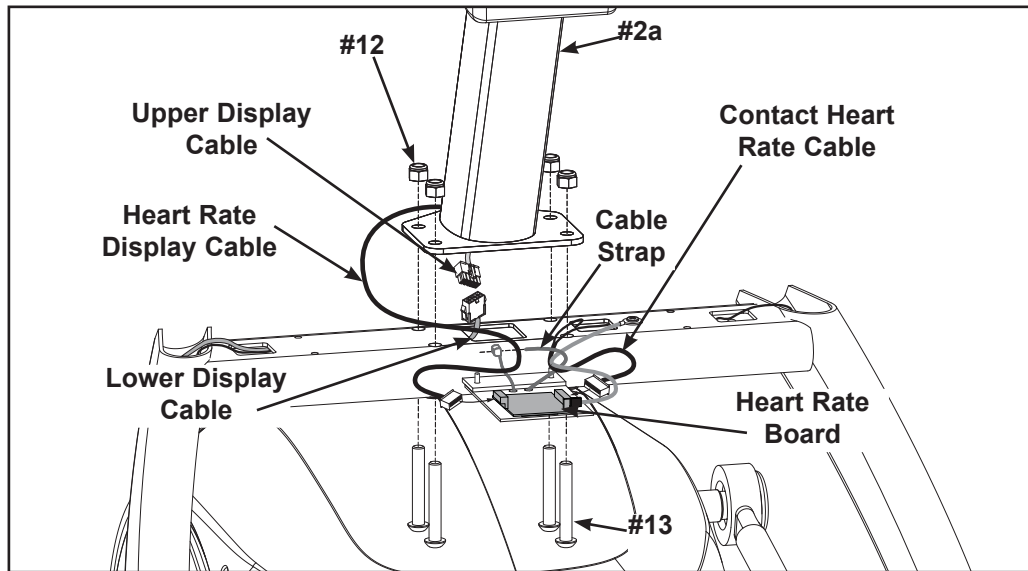

Figure 7 (750AT)
- B. Locate the upper display cable and plug into the lower display cable. See Figure 7
- C. Locate the heart rate display cable and plug into heart rate board. See Figure 7.
- E. Insert (from underneath) the four **BHSCS** .375-16 x 2.25 (#13). Hand thread the four .375-16 nylon locknuts (#12) in position. See Figure 7.
- F. Hold the four BHSCS .375-16 x 2.25 (#13) with a 7/32" Allen wrench (#15) while tightening with a 9/16" open-end wrench to secure console. See Figure 7.